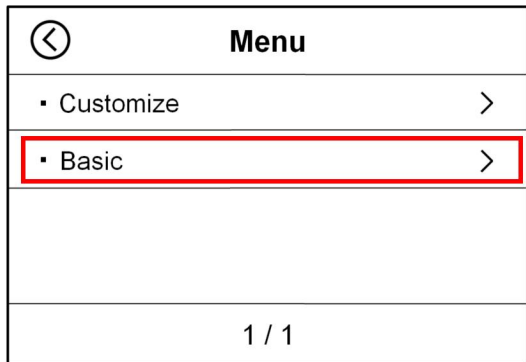
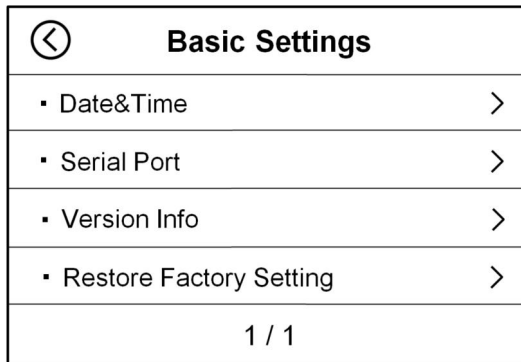

Figure 39
Figure 60
1) Press the “” key to enter the main interface of **MENU**, as shown in Figure 39 below, Press “**Basic**” to enter into Basic Settings, as Figure 60.